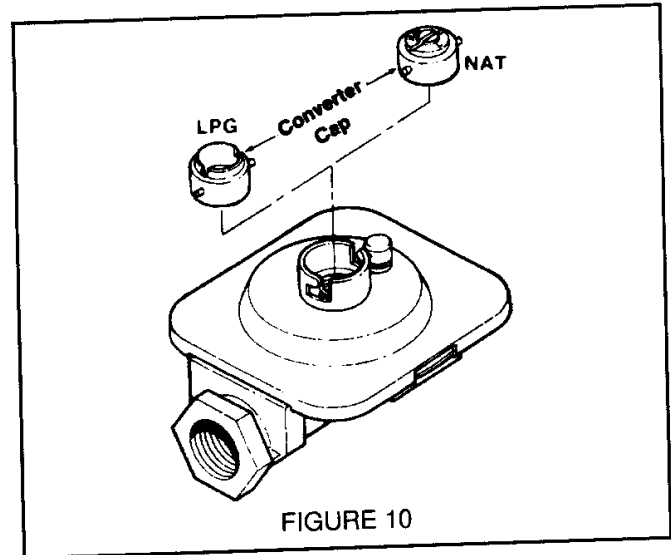

FIGURE 10
TO CONVERT THE APPLIANCE PRESSURE REGULATOR FROM ONE GAS TO ANOTHER: REMOVE CAP, TURN CONVERTER CAP OR PLUNGER OVER AND REPLACE CAP. YOUR UNIT WILL BE EQUIPPED WITH ONE OF THE THREE APPLIANCE PRESSURE REGULATOR TYPES SHOWN BELOW. (See figures 10, 11 and 12).
- Change the appliance pressure regulator from natural to LP setting. (See figure 10, 11 or 12).
- Change the appliance pressure regulator from LP to natural setting. (See figure 10, 11 or 12).
1. Remove the cap, push down and turn counter clockwise. Turn the cap over and reinstall (figure 10). NOTE: THE GAS TYPE YOU ARE CONVERTING TO MUST BE VISIBLE ON THE TOP OF THE INSTALLED REGULATOR CAP.